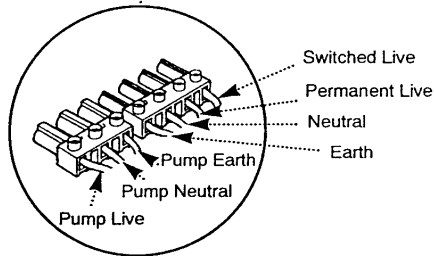

Fig. 74
3. The terminal strips may be removed by carefully pulling them forward. Connect the supply cable and the pump cable to the terminal strips (Fig. 74).